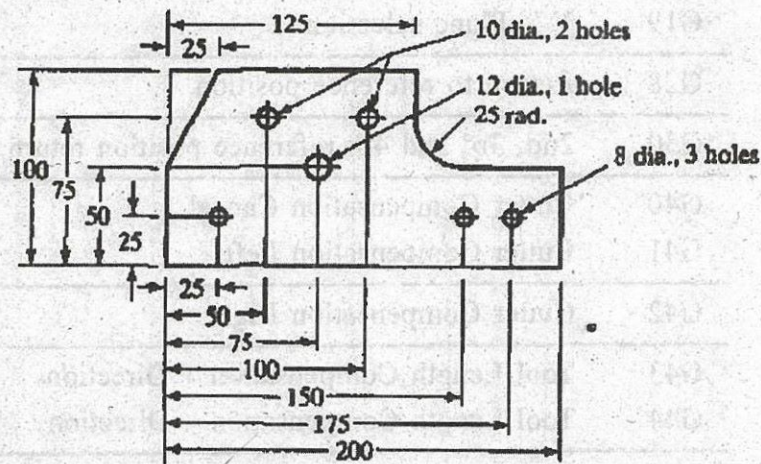

Figure 2: All dimensions are in mm.
7. The part shown in figure 2 below is to be drilled on a turret type drill press. The part is 15 mm thick. There are three drill sizes to be used 8 mm, 10 mm and 12 mm. These drills are to be specified in the part program by tool turret positions T01, T02, T03. All tooling is high speed steel. Cutting speed = 75 mm/min and feed = 0.08 mm/rev. Use the lower left corner of the part as the origin in the x-y axis system. Write the part program using absolute positioning. You can use handout of G codes and M codes for reference. 15